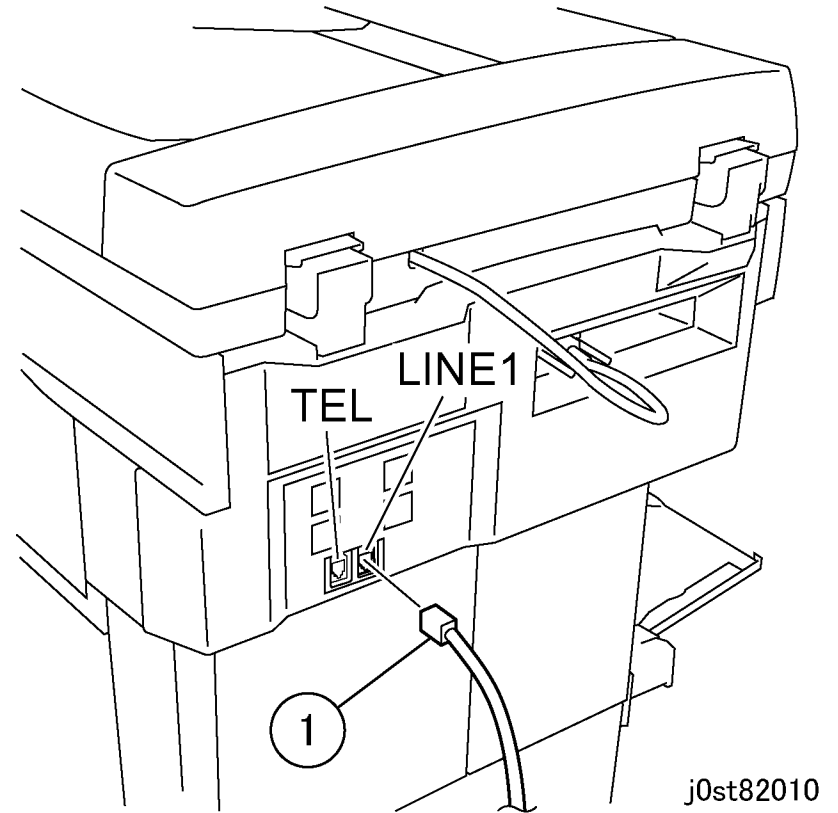

Figure 12 Connecting the Line Cable (j0st82010)
12. Connect the Line Cable. (Figure 12)